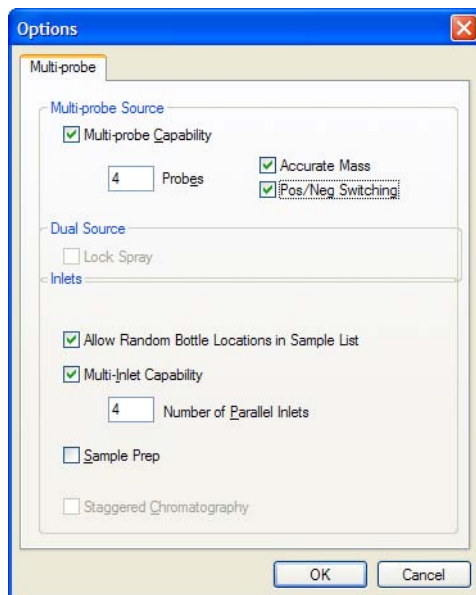

Figure G-3 Options Dialog Box
1. Select Options from the MassLynx Instrument Shortcut bar to open the Options dialog box (Figure G-3).